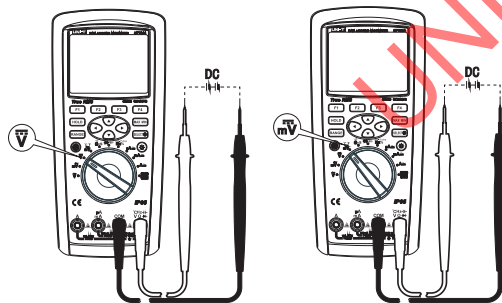

Figure 6
- 2) Set the rotary switch to DC V or DC mV as shown in Figure 6. Connect the test leads to the power or load under test in parallel.